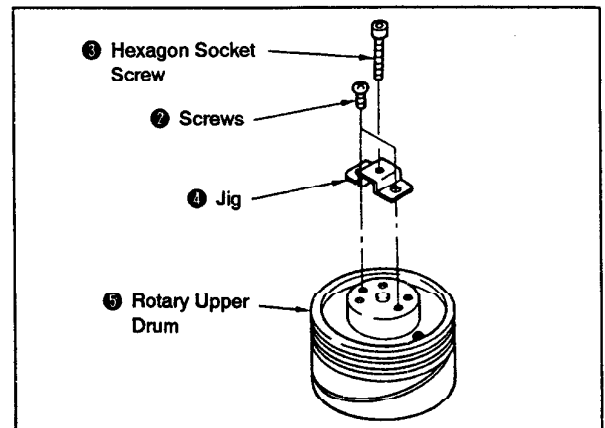

Fig. 3-23.
- 3) Mount the jig ④ (Ref. No. J-7) with the two supplied screws ③, then screw the attached hexagon socket screws ⑤ to the jig ④. The rotary upper drum ⑥ will move upward and come off (See Fig. 3-23).